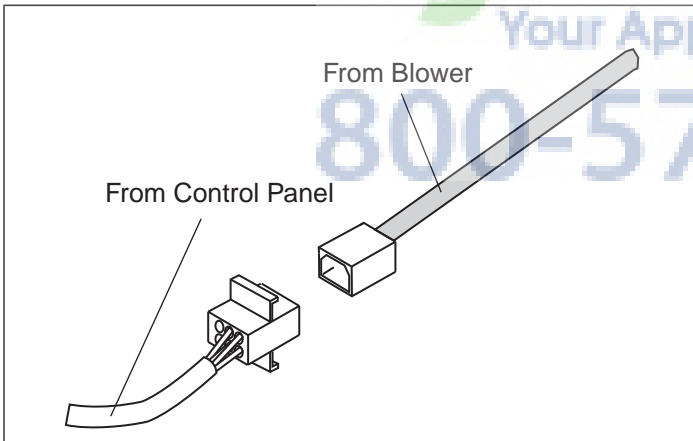

Figure 19: Wiring the Hood with an Integral Blower
3. Connect the blower's Molex plug connector to the connector present inside the hood as shown in Figure 19.
6. Connect the power supply wires to the hood wires in the following order: black to black, white to white, and green wire to green ground screw on chassis. Use spring type wire nuts supplied. (Lost or missing wire nuts should only be replaced with: Spring type wire nuts rated for a minimum of (2) # 18ga wires and maximum of (4) #14ga wires, UL & CSA rated to 600V and 302° F/ 150° C.)